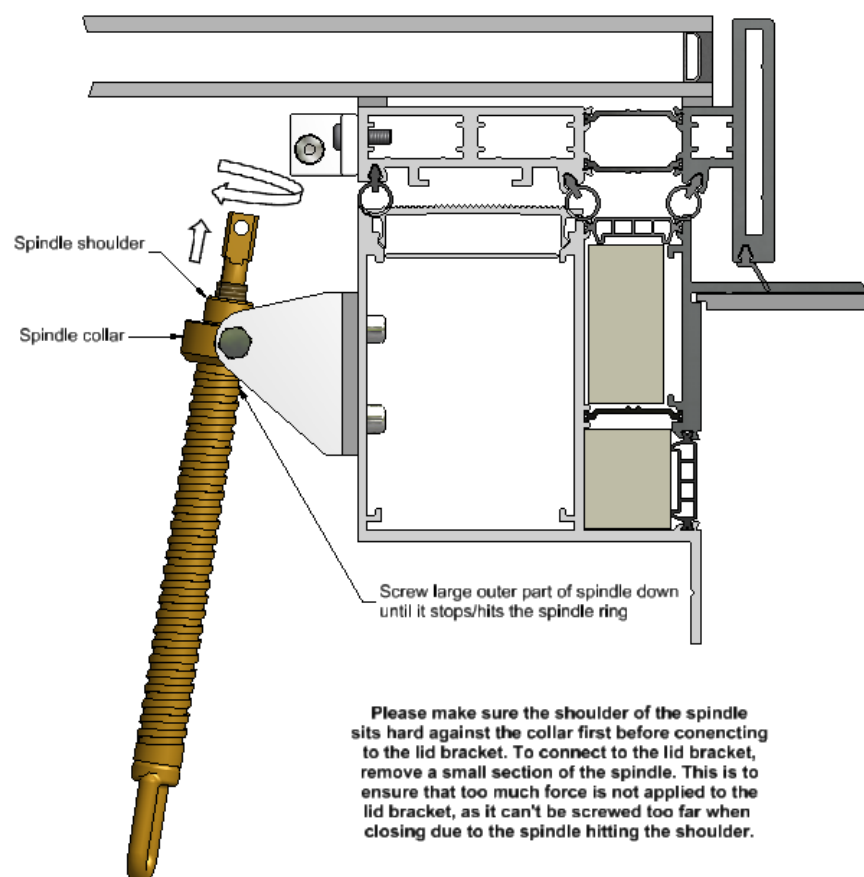

Fig. 14f – Raise the smaller part
- Making sure that the shoulder of the spindle sits hard against the collar, unscrew a small length of the inner spindle, until it can connect to the lid bracket (fig. 14f)